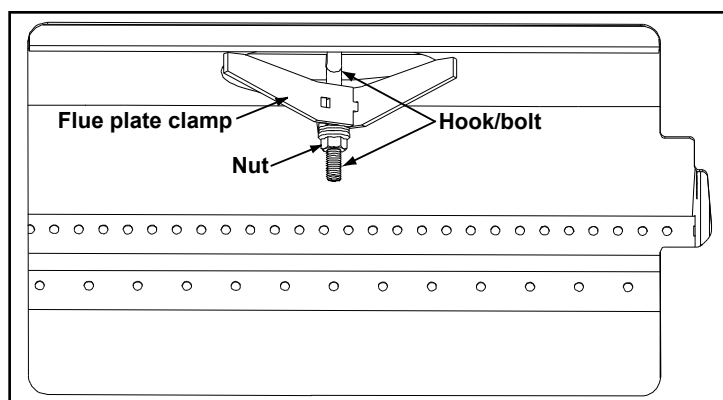

Figure 31: Attaching removable flue.
- a) Remove the first two (2) front secondary air tube and ceramic baffles, if installed (see CERAMIC BAFFLE INSTALLATION).
- b) Unscrew the nut on top of the inside of the firebox, using a $\frac{9}{16}$ " wrench or socket (see Figure 31). The flue plate clamp will slide off the hook/clamp.